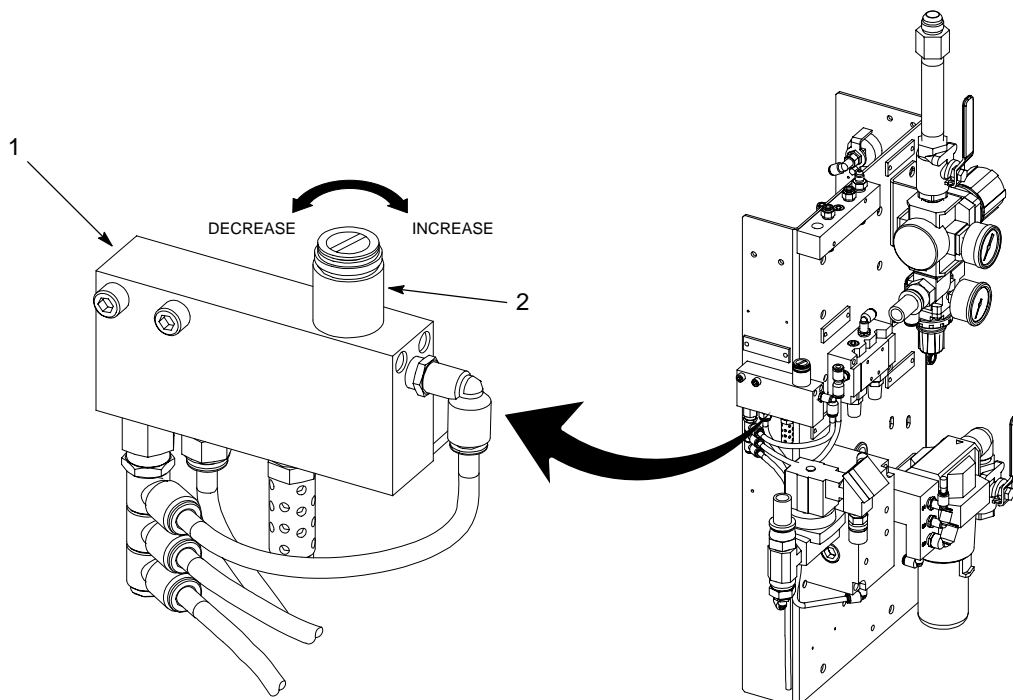

Figure 1 Pump Overlap Time-Delay Module
See Figure 1. The Rhino SD/XD Pump Overlap Time-Delay module consists of a pneumatic time-delay valve (1) that is installed into the drum empty circuit.
See Figure 1.